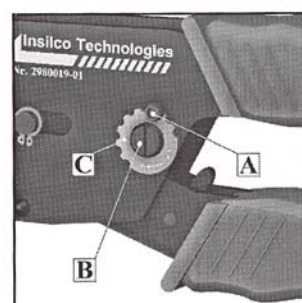

Fig. 6.
1. Loosen and remove the allen head screw (A) using a 2.5 mm allen wrench. (Fig.6.)
2. Using a screwdriver, turn the eccentric axle (B) and the toothed adjustment wheel (C) into a new position.